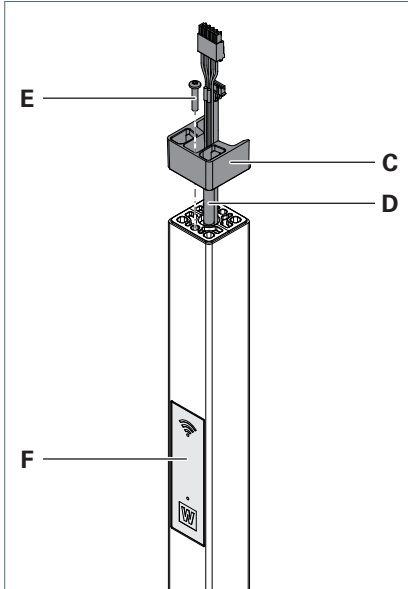

Fig. 2: Mounting the adapter on the column.
- Route the cables **D** from below through the adapter **C** and set the adapter onto the column, see Fig. 2.